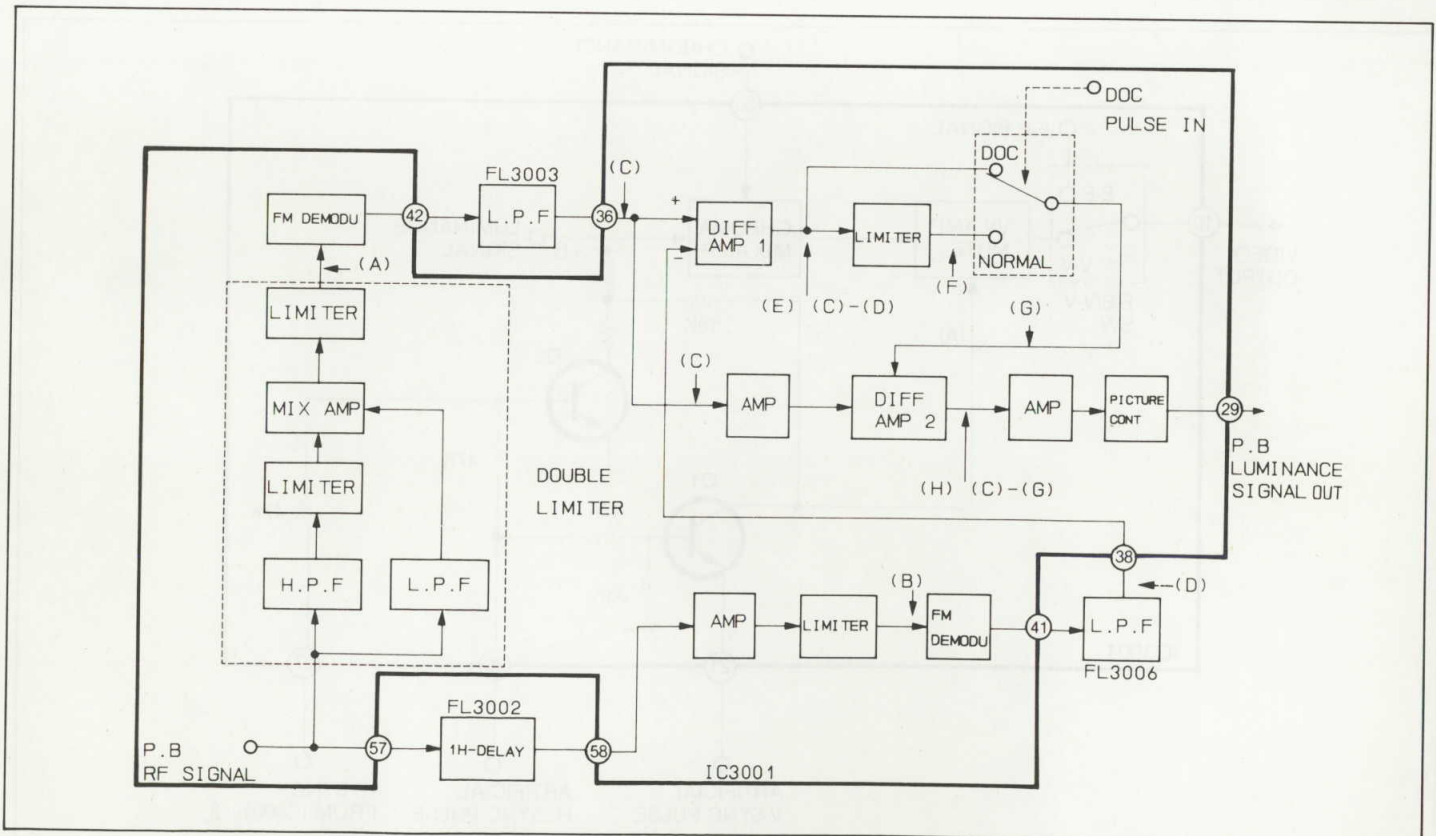

Fig. 2—9 Low Frequency Noise Canceller
The simplified Block Diagram of the Low Frequency Noise Canceller is shown in Fig. 2—9. If any dropout occurs while playing back FM signals, the dropout compensator including the 1H delay line (FL3002) is utilized, but in this time, the switching noise is generated on the RF signal (A) as shown in Fig. 2—9.